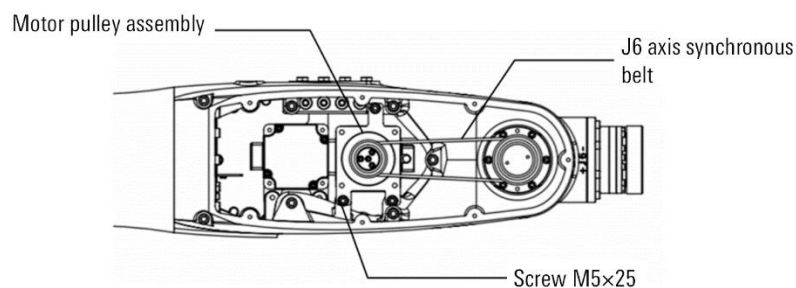

Figure 12-11 Remove the J6 axis timing belt
- Step4. Remove three M5 screws from the motor base, as shown in Figure 12-11.